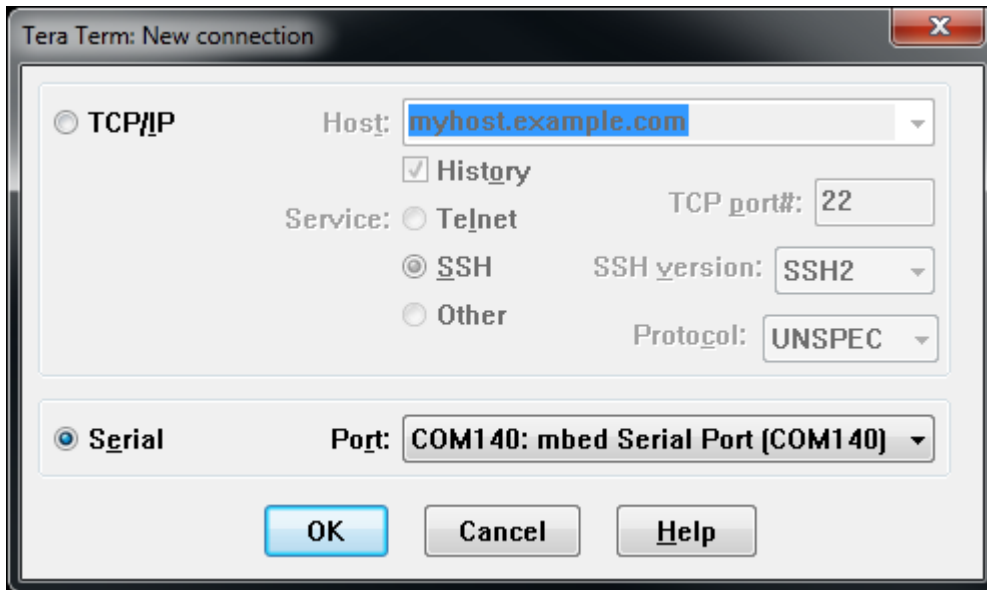

Figure 23. Connect to mbed Serial Port
- 3) Open the terminal application and connect to the mbed serial port. If you are using TeraTerm, select **File** and then **New Connection...** from the menu bar, and then select **Serial**. Provide the **Port** corresponding to **mbed Serial Port**, as shown in Figure 23, and click **OK**.